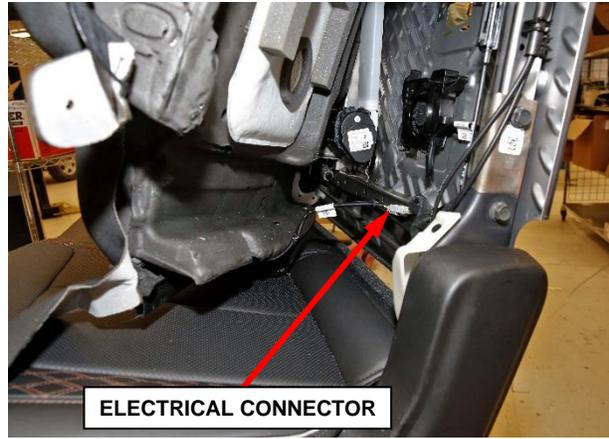

Figure 22 – Electrical Connector
19. Disconnect any wire harness electrical connectors from the seat back cover (Figure 22).